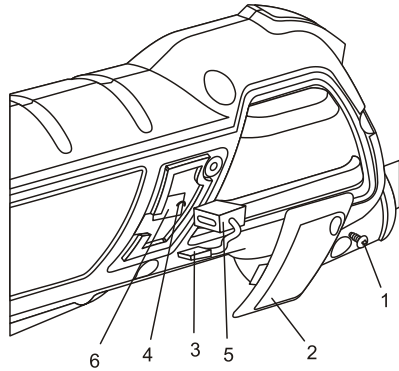

Fig. 10
1. Use a #1  screwdriver and remove the screw (1) from the brush cover (2) in the left handle (Fig. 10).
3. Use needle nose pliers and pull the outer spade connector (3) off the inner spade connector.
4. Use needle nose pliers to carefully lift the brush spring (4) off the carbon brush (5).
5. Pull the carbon brush from the brush holder (6).